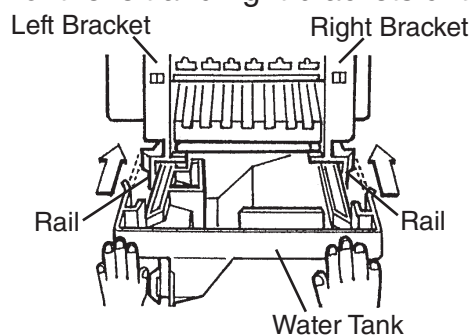

Fig. 46
13) Position and lock the ice chute onto the left and right brackets by pushing the ice chute down until it clicks onto both brackets. See Fig. 46.